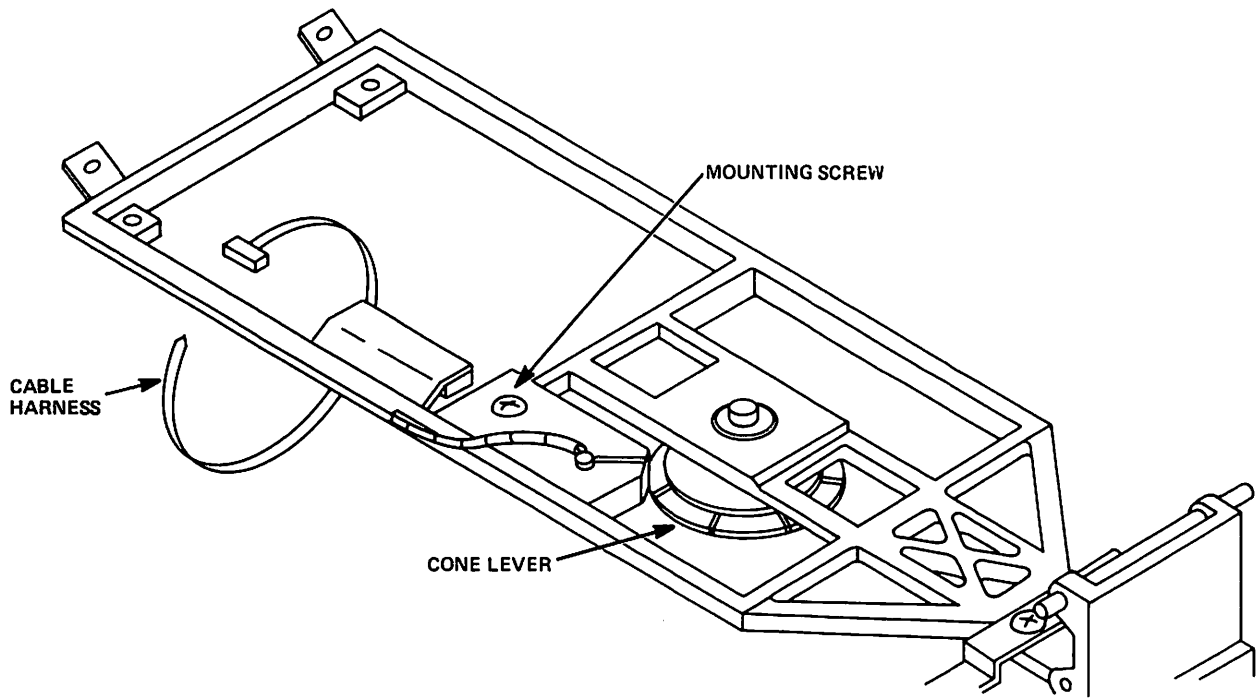

Figure 5-4
5.4.4 With a Phillips screwdriver, remove the mounting screw that attaches the index emitter holder to the Cone Lever Assembly (see Figure 5-4).